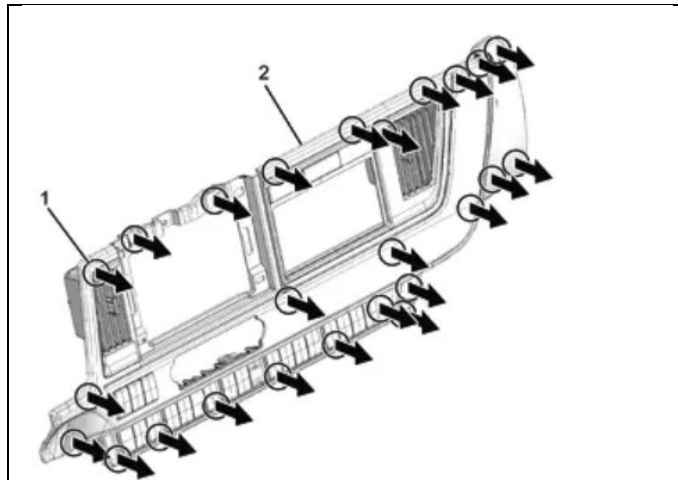

Figure 16
16. Pull out the center cluster from the instrument panel. (See Figure 16.)